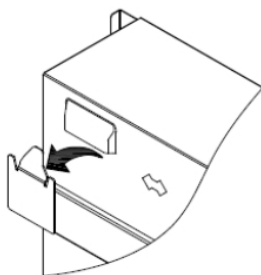
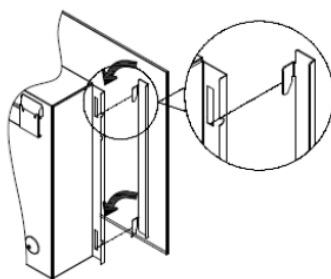

Fig.3
Fig.4
- Attached the feet to the base of the heater with 2 screws for each of the feet and tighten with a screwdriver to secure as shown in Fig3.
3. First Loosen the 2 screws on the side cover, remove the glass panel from the front of the enclosure. To remove , have firm grip on the glass panel with both hands , slide upwards to unlock and then pull forward to remove. Place the heater upside down on a soft cloth or carpet. Secure the bottom bracket onto the base of the heater enclosure with the ST4 x 8mm screws provided. With the help of another person(to avoid injury,damage to property or appliance),lift the heater into place and engage the heater with the top wall bracket(Fig.3 & Fig 4) and is positioned centrally. Now mark the position of the 2 holes that secures the bottom bracket. Lift heater away from the wall and drill the holes (Solid walls, brick/concrete). For plaster wall , use plaster wall anchors (Not Supplied).